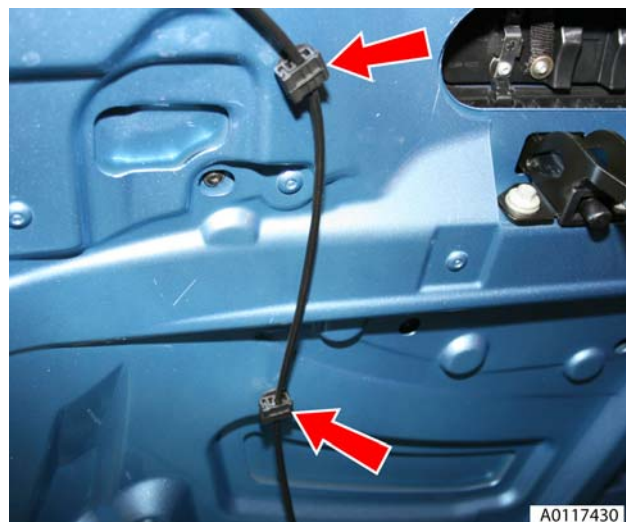

Figure 7
9. Release 2 clips (both sides) securing B-post flap cables to tonneau cover (see Figure 7).